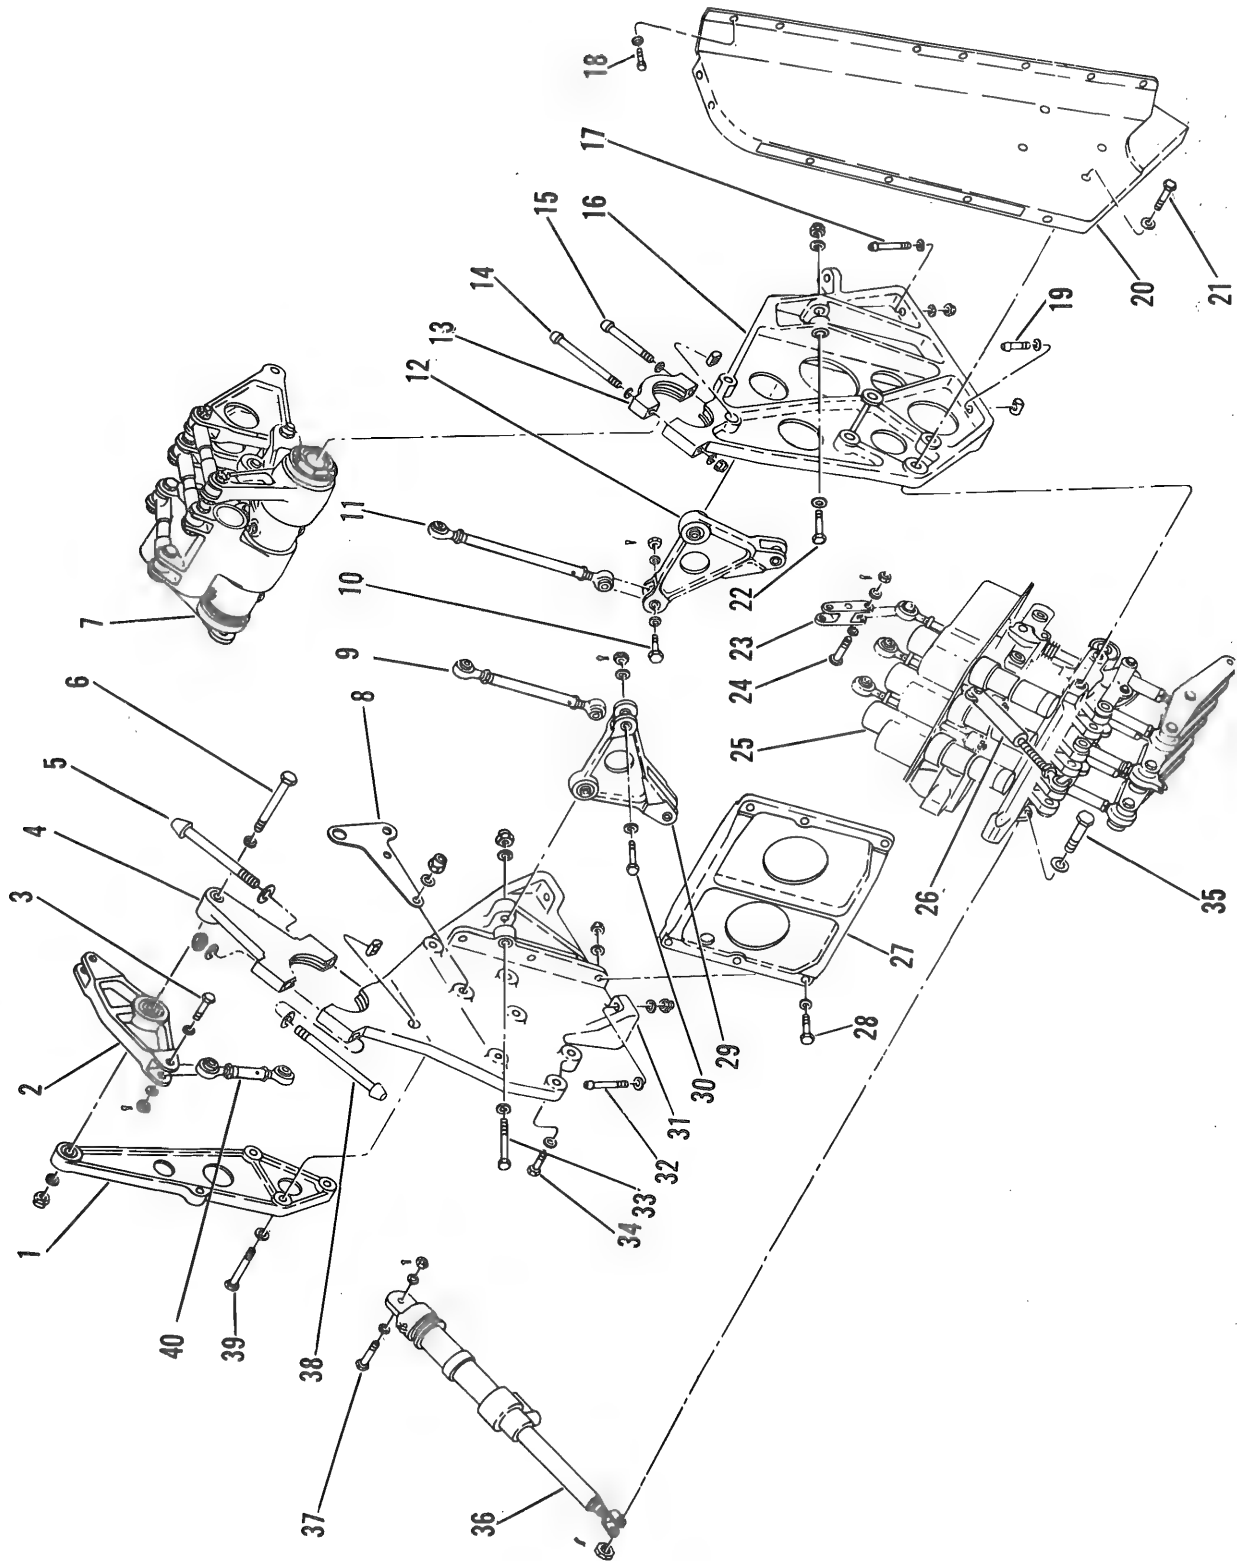

Figure 7-5. Auxiliary Servo and Mixing Unit (Sheet 1 of 2)
a. Place mixer assembly in position on supports (16 and 31, figure 7-5) and install caps (4 and 13).
b. Tighten bolts, securing cap (4) to support (31), to a torque of 320 to 390 inch-pounds.